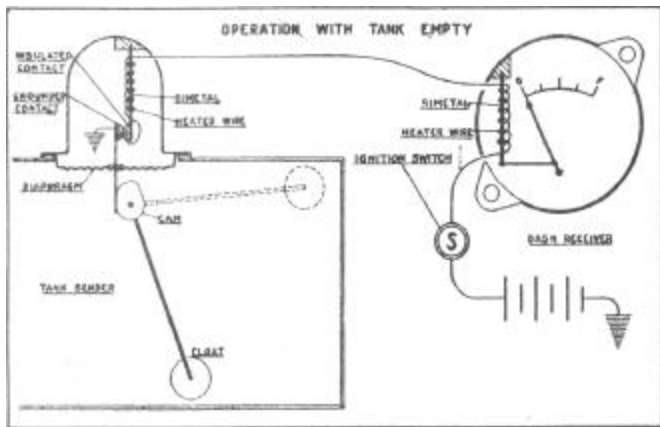
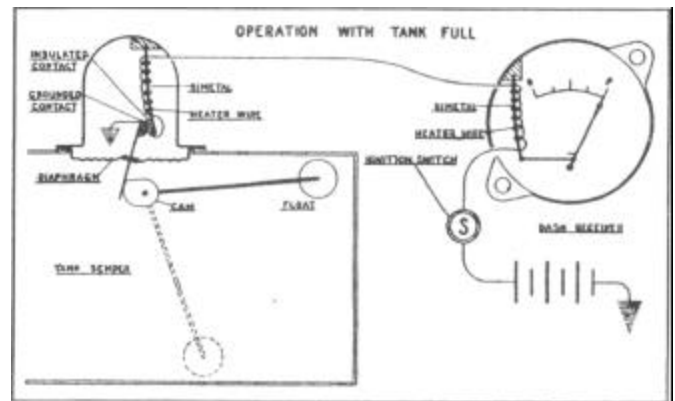

Fig. 1—Fuel gauge operation with tank empty.
Fig. 2—Fuel gauge operation with tank full.
The fuel level gauge used on all Hudson cars and illustrated in Figures 1 and 2, is of the electric type using bi-metal arms on which heating coils are wound in both the tank and the dash unit.
1. Disconnect the lead of the tank unit on the car and connect this lead to the test tank unit and ground this tank unit to the car frame. Turn on ignition switch and operate tank unit float by hand. With the float of the tank unit at the bottom position the dash unit should register at the bottom mark on the dial, see Figure 1. Move float rod up to top position and the dash unit being checked should move to top mark on the dial, as shown in Figure 2. Allow one minute for dash unit pointer to come to rest.